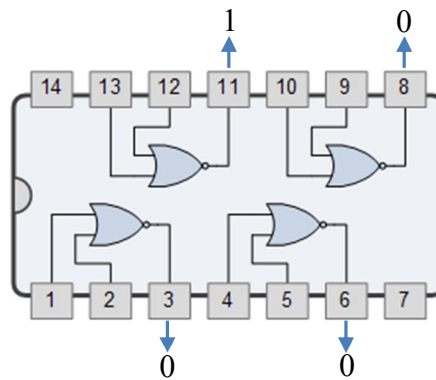

Figure 3(b)
- (i) Power dissipation,  $P_{D(max)}$  on an SN54LS02 IC when the output condition is as shown in Figure 3(b). Assume that the  $V_{CC}$  used is maximum. (6 marks)